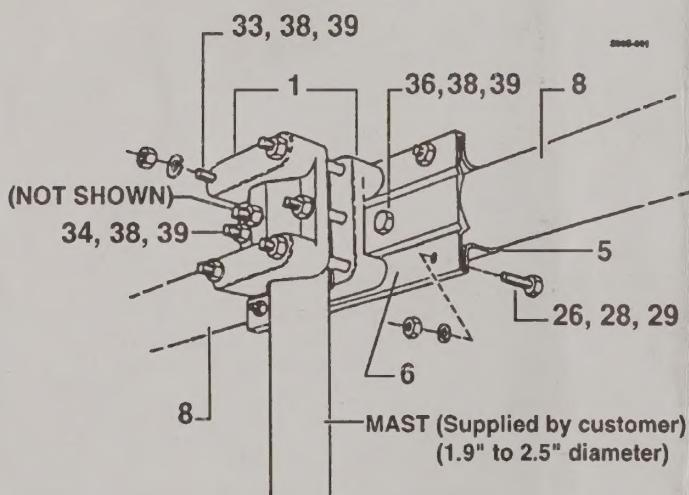

Figure 1
The cast aluminum boom-to-mast brackets must be removed from the temporary mast and installed on the permanent mast as shown in Figure 1. Attach a gin pole to the tower or mast to assist in lifting the antenna. There must be at least two (2) people available when installing this antenna. DO NOT try to install this antenna by yourself!